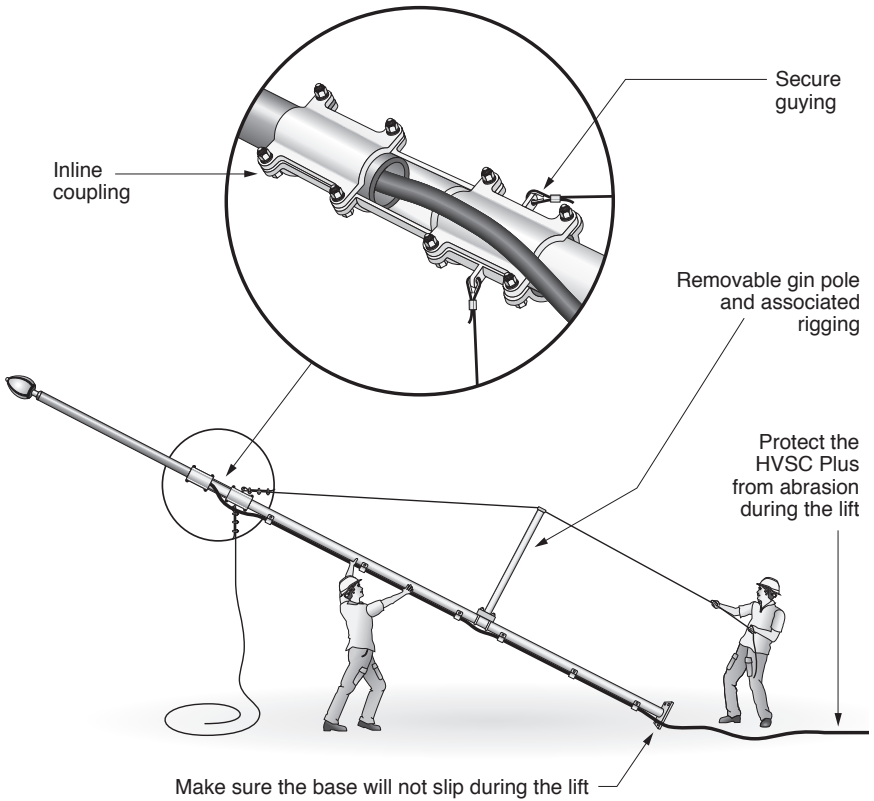

Figure 34.
- If required, fit the HVSC Plus down-conductor through the side entry of the inline coupling and through the FRP mast. Refer to Figure 34.